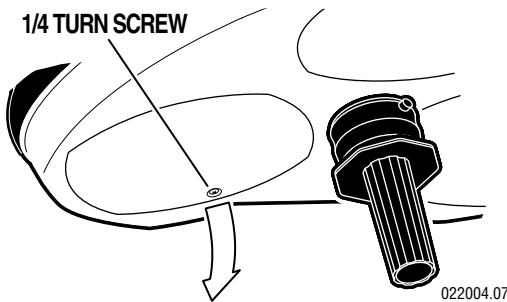

Figure 3-1.
a. Hold the diffuser/filter assembly with one hand, loosen the "1/4-turn" screw and lower the diffuser/filter assembly. See figure 3-1.